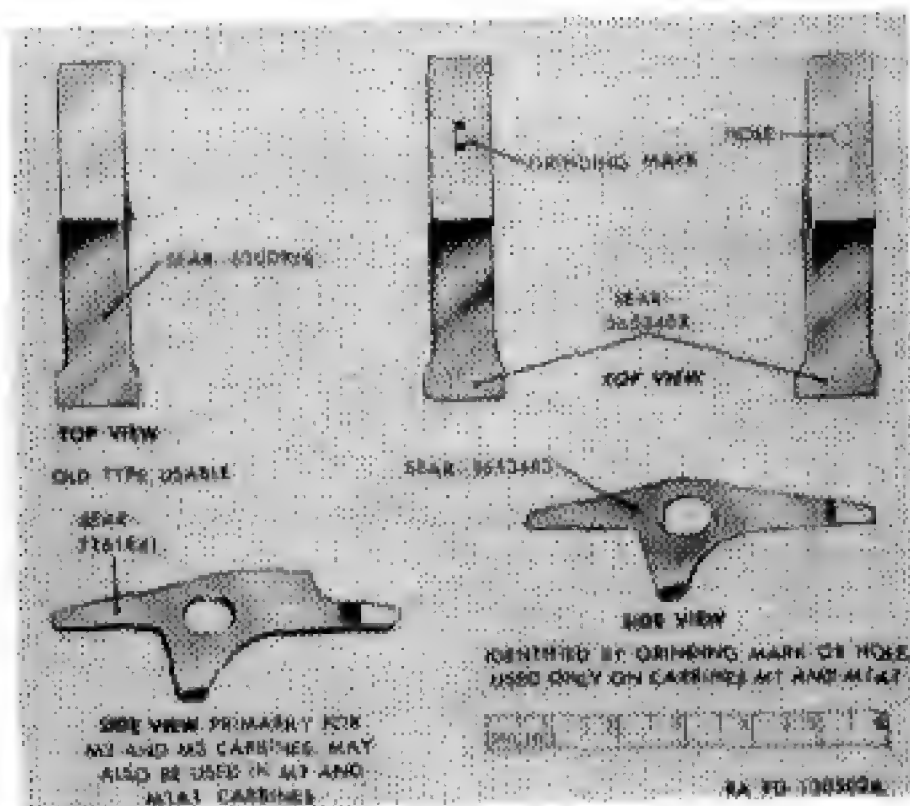

Figure 52. Sears — usable types.
- (3) Where comparators are not available inspect sears carefully. The nose should have a "fine grind" surface and should have a small radius at the point where it contacts the sear surface of the hammer. The surface at the extreme rear end should be flat ground and the lower corner or edge should be sharp. Some sears 6200978 have been properly ground at each end and are usable. In this connection reference is made to Fig. 52, which is correct as far as it goes but is not complete. Sears 5653483 with the grind quality were manufactured without either of these identifying marks and these also should be used if otherwise serviceable. The important point is to assure that all sears used are those on which the nose and rear end are properly ground as mentioned above. Questionable sears should be retained in the shop until a sizable quantity is accumulated, whereupon disposition instructions should be requested of Chief of Ordnance, Washington 25, D.C., ATTENTION: ORDFM. This does not mean that all of the sears that can be determined unserviceable by visual inspection should be retained.
- (4) Check sear for movement on trigger pin. Sear should rotate freely about pin and have backward and forward movement due to elongated pinhole but should have no vertical play. Check pinhole for excessive wear.